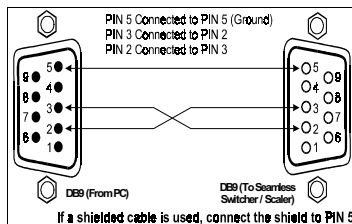

Figure 2: Connecting the PC
- Connect the RS-232 DB9 port on your PC to the RS-232 DB9 rear panel port on the **VP-724DS** unit, forming a cross-connection2, as Figure 2 illustrates